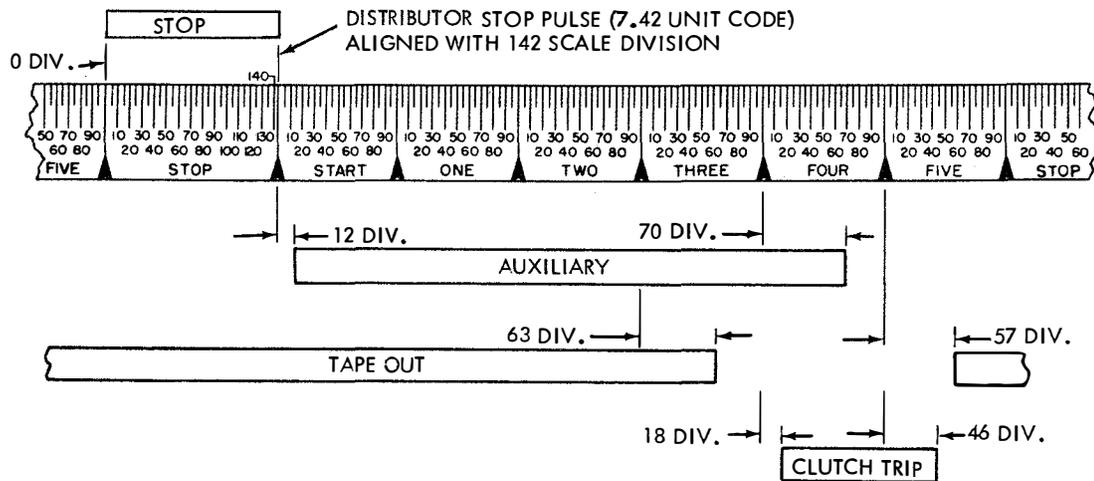

Figure 5 - Pulse Length Requirements for Storing Switch Auxiliary Contacts (28C Unit)
- (1) With test set connected to auxiliary contact A or transmitter auxiliary contact, contact shall close at 12 ± 30 divisions in start pulse segment of test-set scale and open at 70 ± 30 divisions in No. 4 pulse segment of test-set scale. (See Figure 5.)
- (2) With test set connected to auxiliary contact B or distributor clutch-trip contact, contact shall close at 18 ± 30 divisions in No. 4 pulse segment of test-set scale and open at 46 ± 30 divisions in No. 5 pulse segment of test-set scale. (See Figure 5.)
- (4) With test set connected to tape-out contact or 6th pin contact of 28C unit and with no tape in the transmitter, contact shall close at 57 ± 40 divisions in No. 5 pulse segment of test-set scale and open at 63 ± 40 divisions in No. 3 pulse segment of test-set scale. (See Figure 5.)